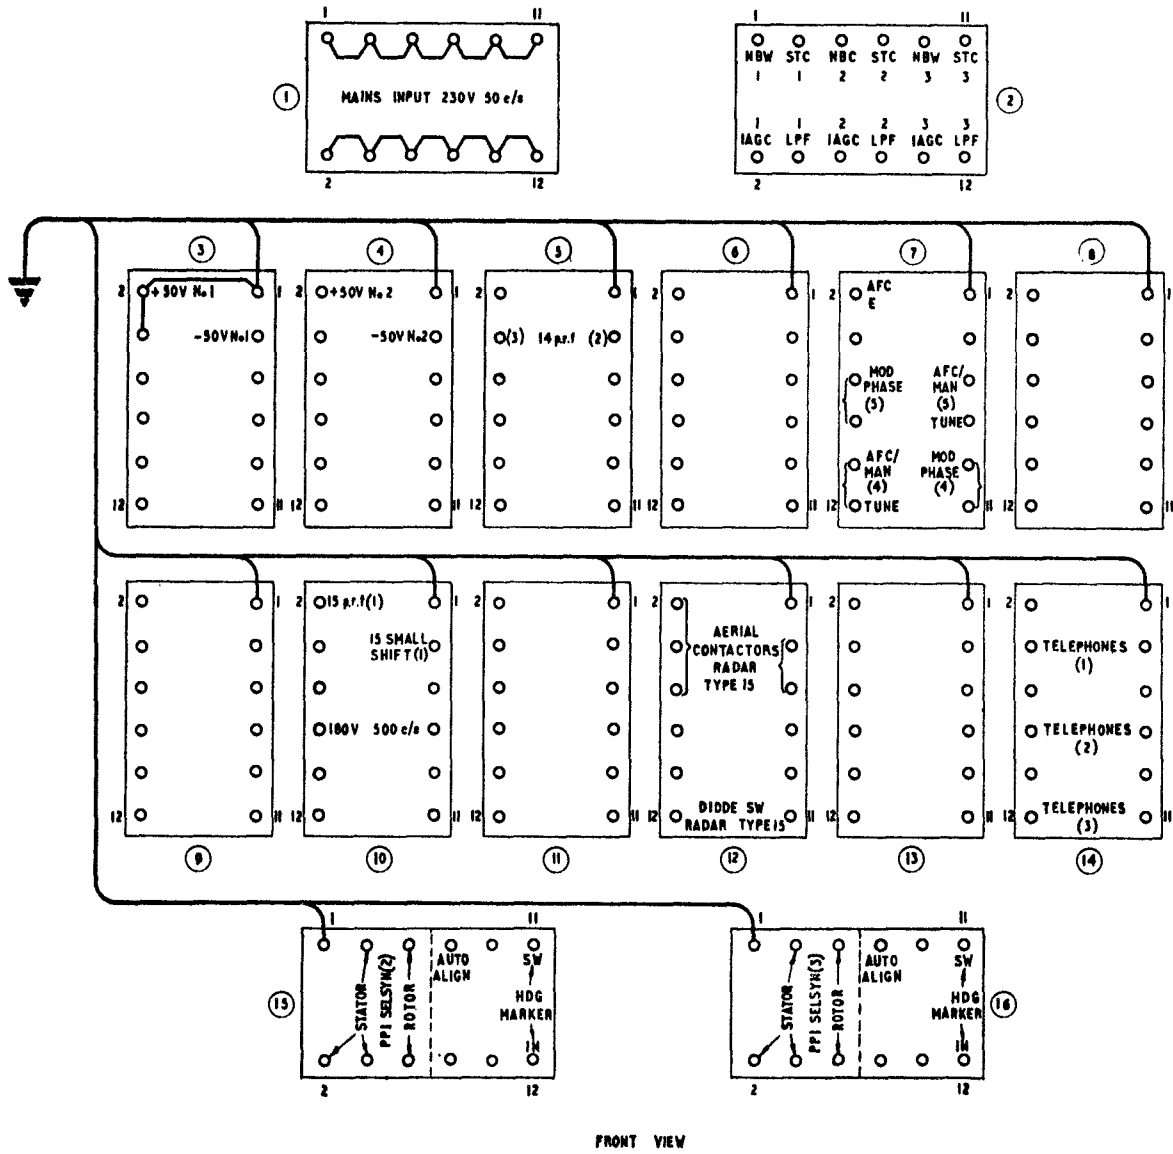

Fig. 6. Panel (mains distribution) Type 625, schematic
23. A schematic diagram of the inputs and outputs to this panel is given on fig. 6.